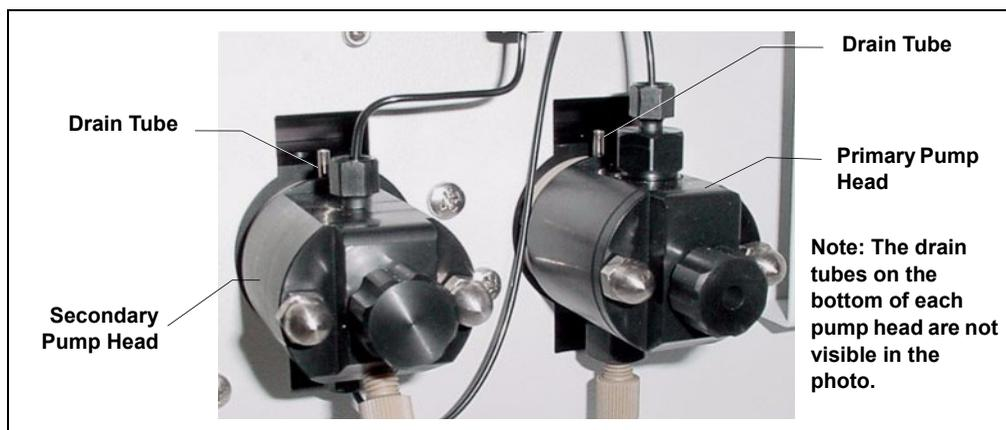
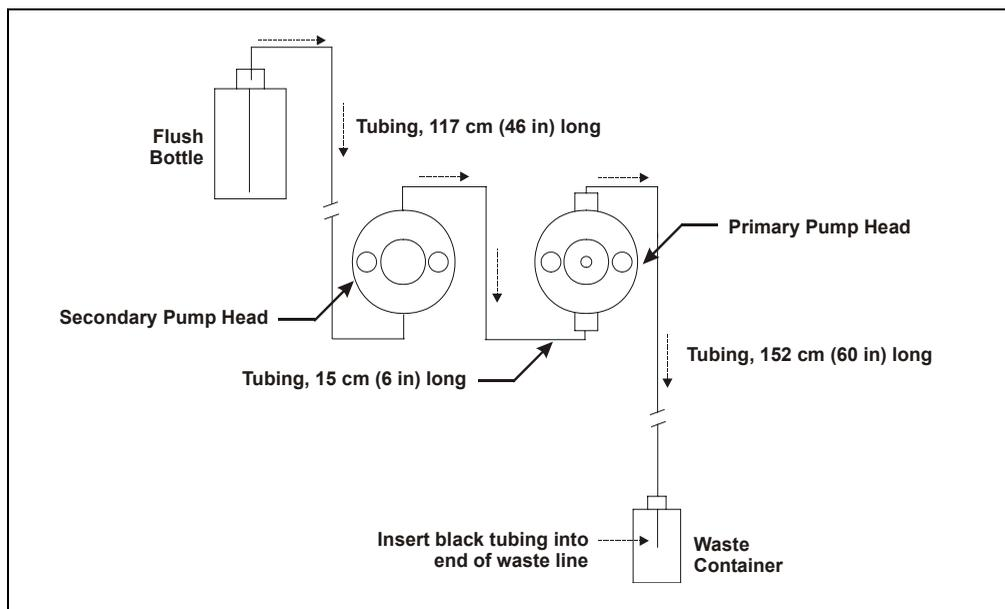

Figure 48. Primary and Secondary Pump Heads with Drain Tubes
Figure 49. Piston Seal Wash Flow Schematic
4. Install the tubing as follows (see Figure 48 and Figure 49):